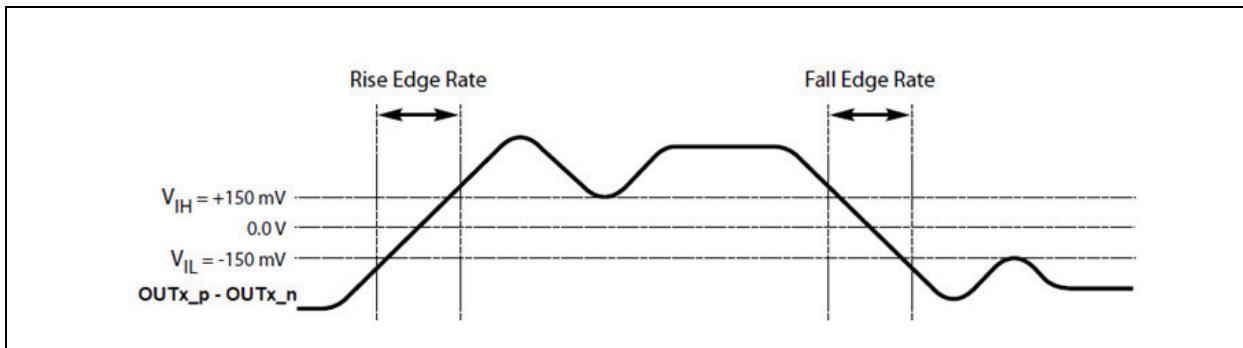

FIGURE 1-5: Differential Measurement Points for Rise and Fall Time.
- 3:** Measured from -150 mV to $+150 \text{ mV}$ on the differential waveform (derived from $OUTx_p$ to $OUTx_n$). The signal must be monotonic through the measurement region for rise and fall time. The 300 mV measurement window is centered on the differential zero crossing. See Figure 1-5.